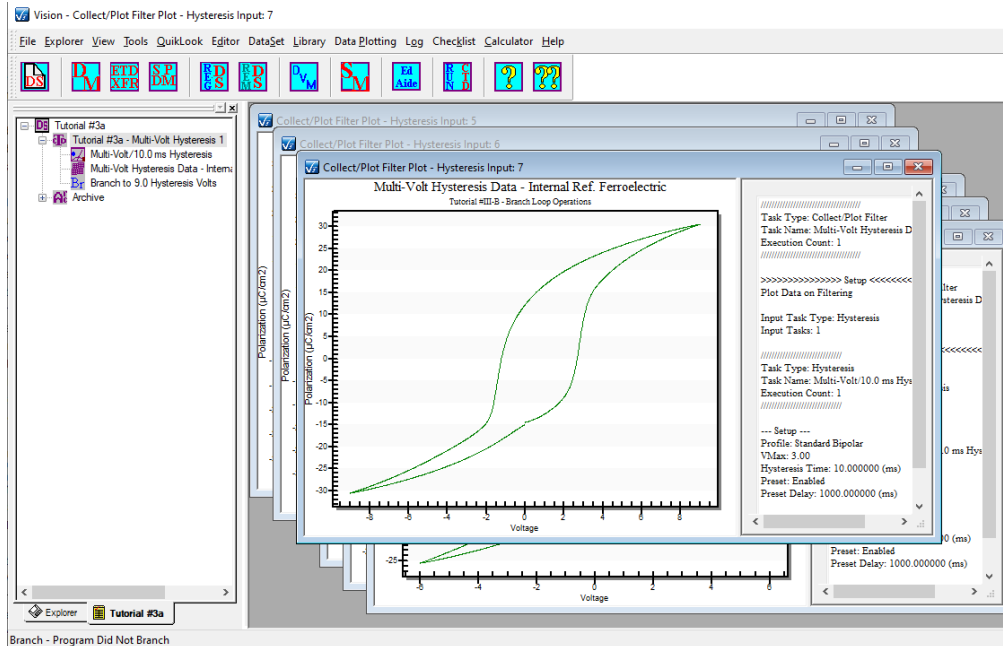

Figure 9 - Vision Program Window After CTD Execution.
1. Using any of the methods discussed in earlier tutorials, execute the Experiment. As the CTD runs, a Hysteresis measurement is made, then the Filter Task plots the data. At each new iteration, a new Filter plot window will be generated showing the most-recently made measurement. After six iterations the CTD will terminate, the Archive will be written and, after opening the Archive and the ETD, the program will appear as in **Figure 9**. Note that the most-recent (9.0-Volt) measurement is displayed at the top of a stack of plot windows. Each of these windows holds a measurement at a different iteration.